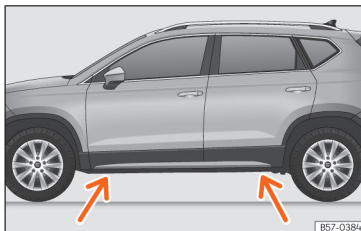

Fig. 228 Jack position points.
- Look on the crossbar for the mark of the jack support point (sunken area) closest to the wheel to be changed >>> Fig. 228.